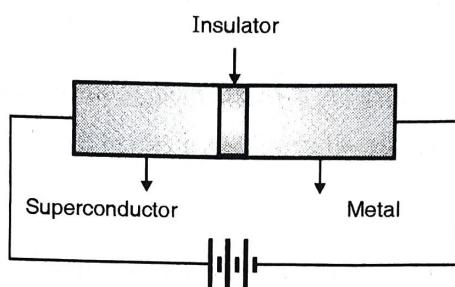

Fig. 5.7.2 : A thin insulating layer sandwiched between metal and superconductor
- Now consider that in the above experiment, instead of conductor if superconductor is used and voltage is applied across them, as shown in Fig. 5.7.2.